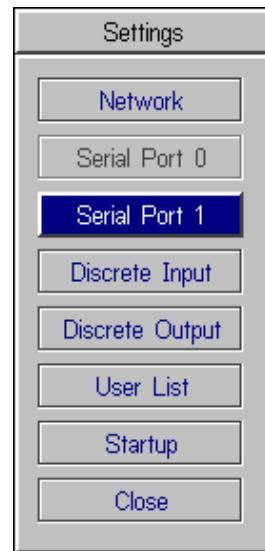

Figure C-16: Settings Menu
4. Select Settings to open the Settings menu (Figure C-16).